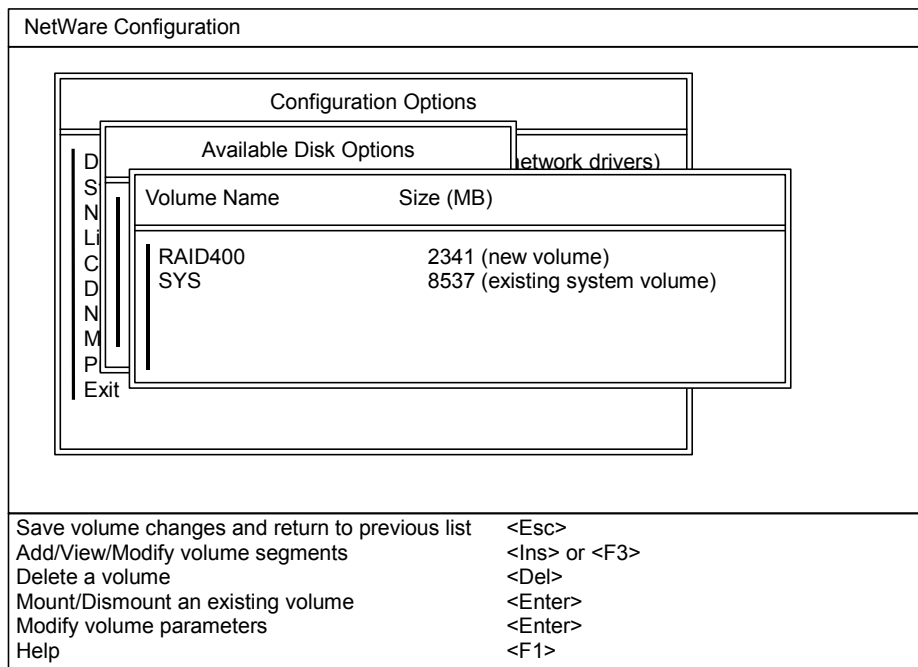

**Figure 3.12** Entering the Disk Segment Parameters
6. On the Disk Segment Parameters screen, enter the new volume name (or verify the selected volume), and enter the disk segment size (see Figure 3.12). The segment size is the same as the partition size entered during disk partitioning (see step (8) in section 3.2).